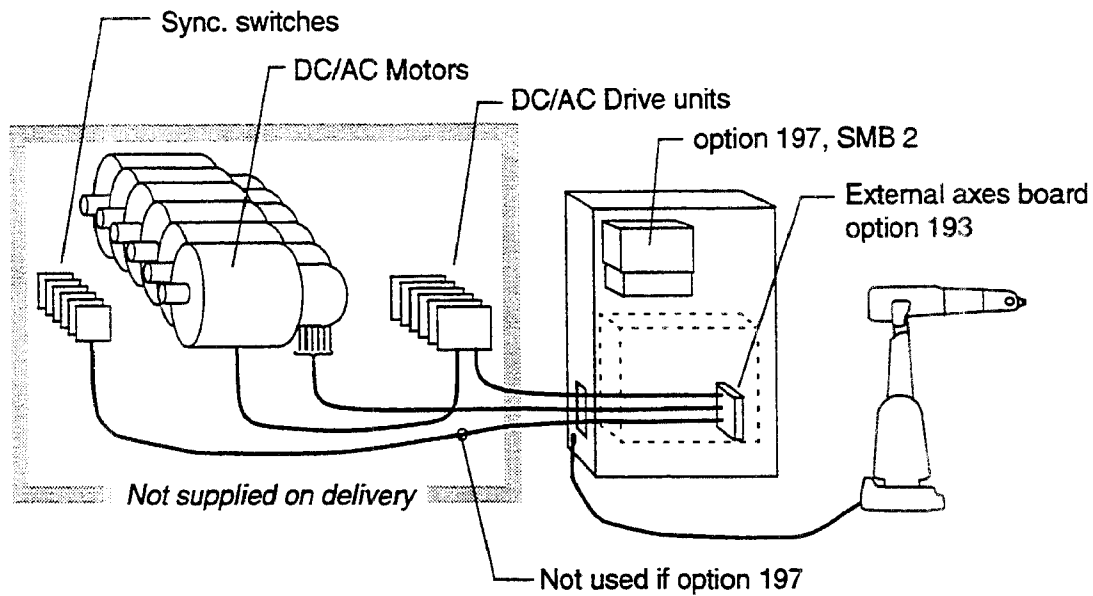

Figure 31 External axes with external drive units.
- a DC/AC motor controlled via an external drive unit (see Figure 31).